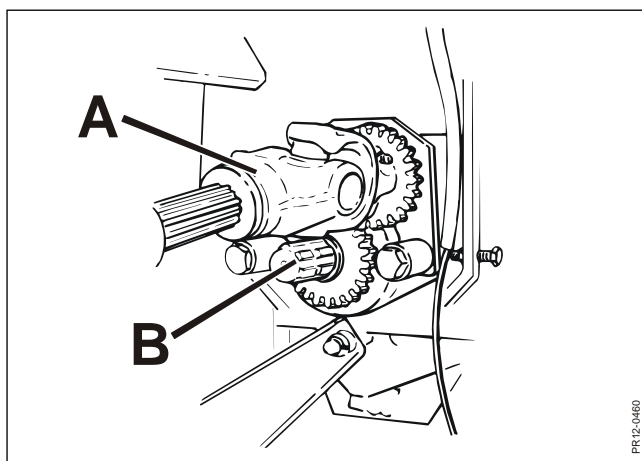

Fig. 5-8
- Fig. 5-8** 2) Move the PTO shaft **A** from the rotor to the alternative pin in **pos. 1** where the gear wheels are not in mesh. Thereby the rotor is not driven.
Fig. 5-8 4) After reversing disconnect the power take-off again and, **when the rotor has come to a complete stop**, remove any grass residue and move the PTO shaft **A** for the rotor back to the pin **B** for driving the rotor.